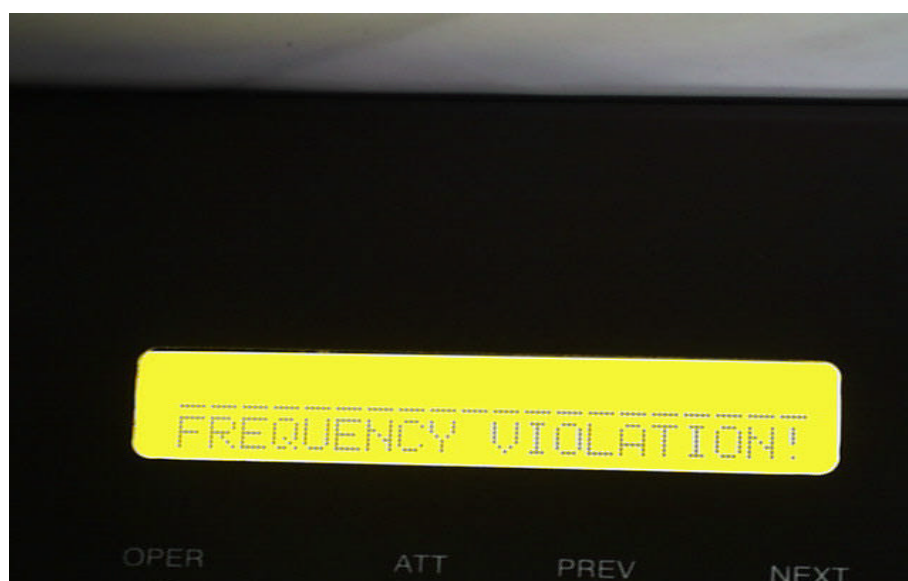

Figure 2. The "Frequency Violation!" message
- The software lock-out system resets the amplifier in stand-by mode always when RF excitation in the frequency range between 24 and 35 MHz is detected on the tube grid. This system is fully independent from the mechanical one, so the amplifier will not work between 24 and 35MHz even though one might overcome the mechanical system. A software message "Frequency Violation!" is issued to the operator in such a case, as seen on the next photo (Figure 2):